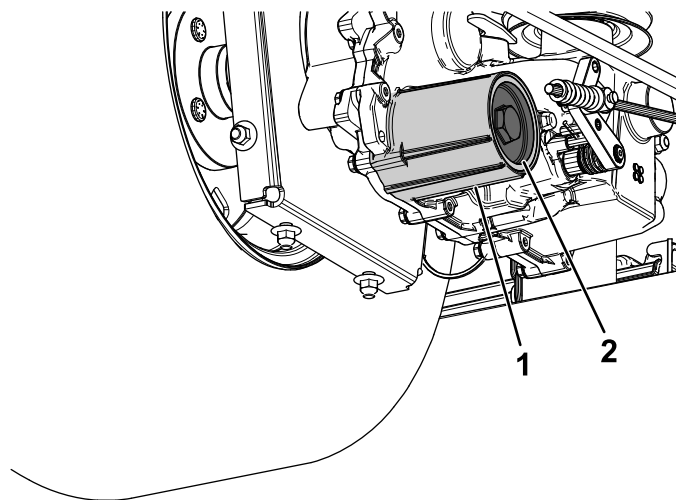

Figure 70
7. Remove the hydraulic-fluid filter cover from the transaxle to drain the fluid (Figure 70).